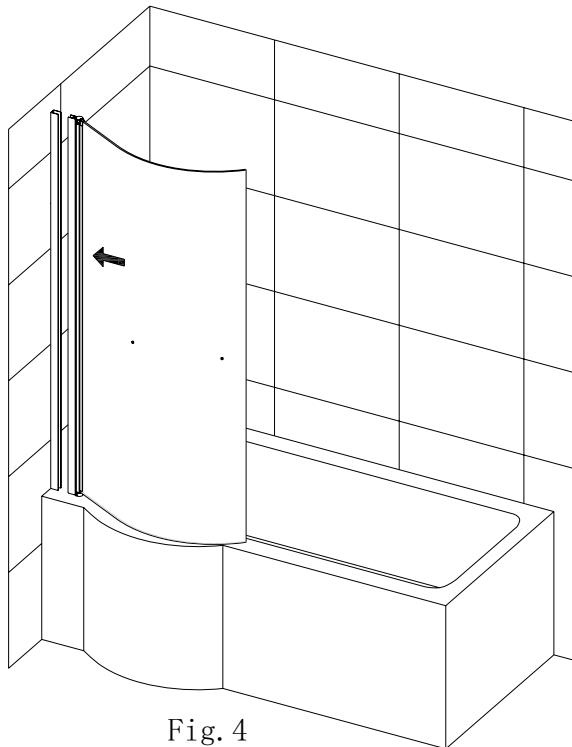

Fig. 4
4) Connect the pivot doors with the wall profiles .As Fig.4